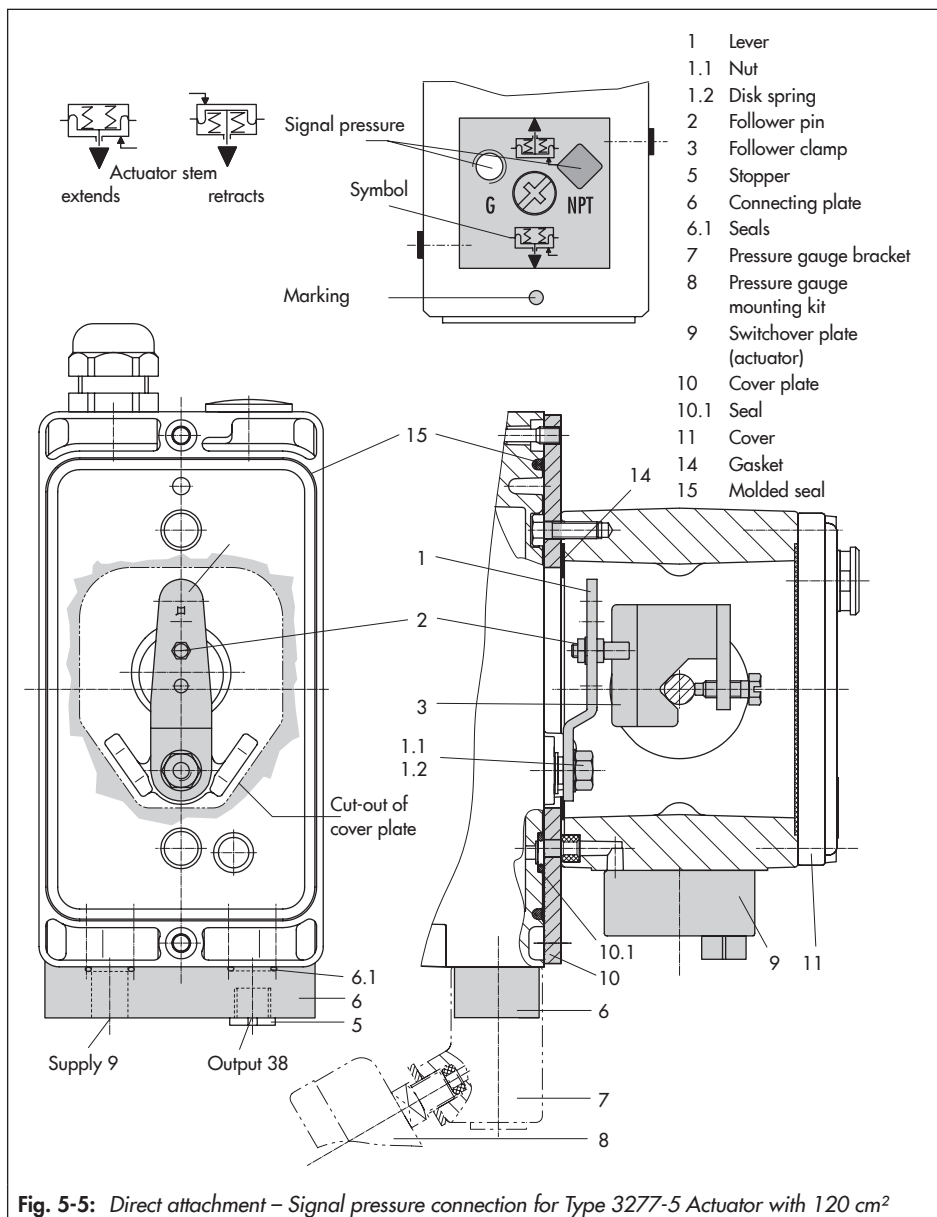

Fig. 5-5: Direct attachment – Signal pressure connection for Type 3277-5 Actuator with 120 cm²
Actuator with 120 cm² (see Fig. 5-5)
6. Mount cover plate (10) with narrow side of the cut-out (Fig. 5-5, on the left) pointing towards the signal pressure connection. Make sure that the gasket (14) points towards the actuator yoke.
7. **15 mm travel:** Keep the follower pin (2) on the M lever (1) on the back of the positioner in the pin position 35 (delivered state).